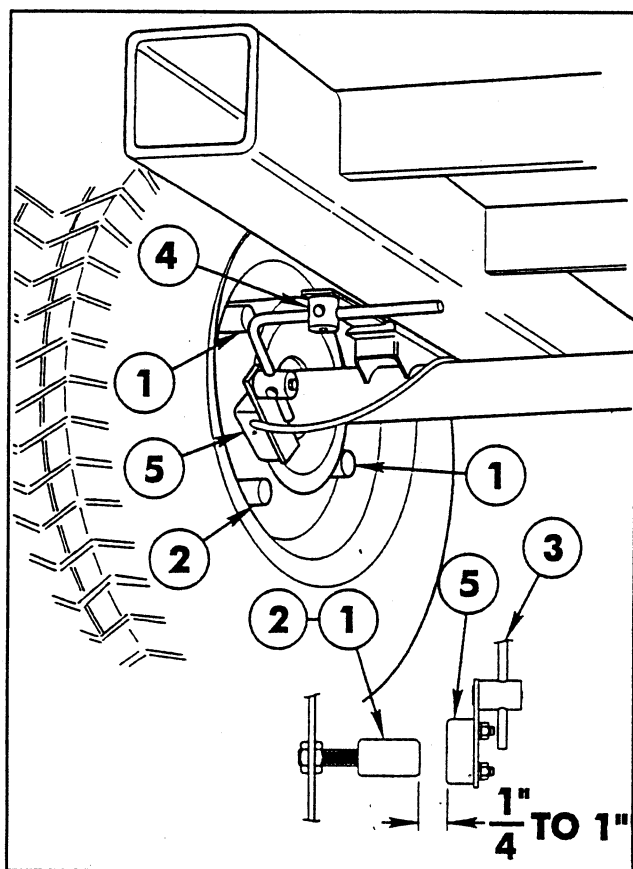

FIG. 3
1. Mount the four (4) Wheel Magnets to the inside rim of the Vehicle's left rear wheel with eight (8) hex nuts and four (4) lock washers as shown in FIG. 3. **IMPORTANT!** Magnets must be mounted in alternating red-black sequence.